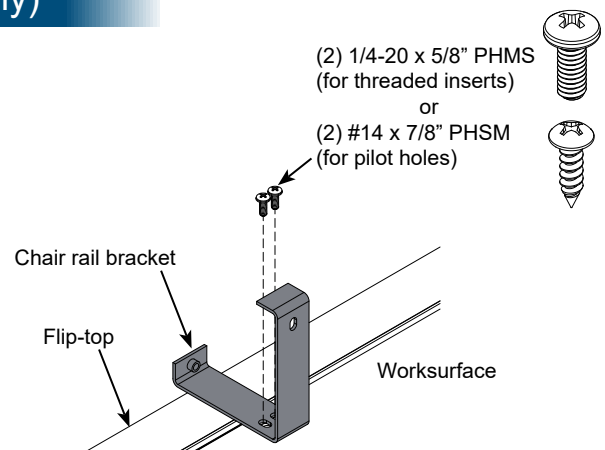

Figure 1
- Orient and attach the chair rail bracket to the center of the worksurface as shown in **Figure 1** with (2) 1/4-20 x 5/8" PHM screws.